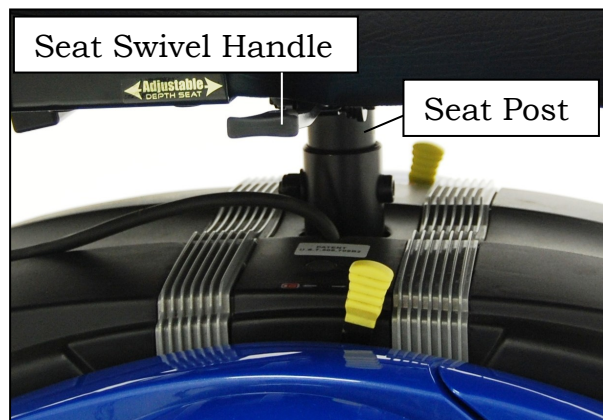

Figure 3
2. Push down on the seat and rotate the seat until it aligns and locks in place. See figure 3 on page 14.